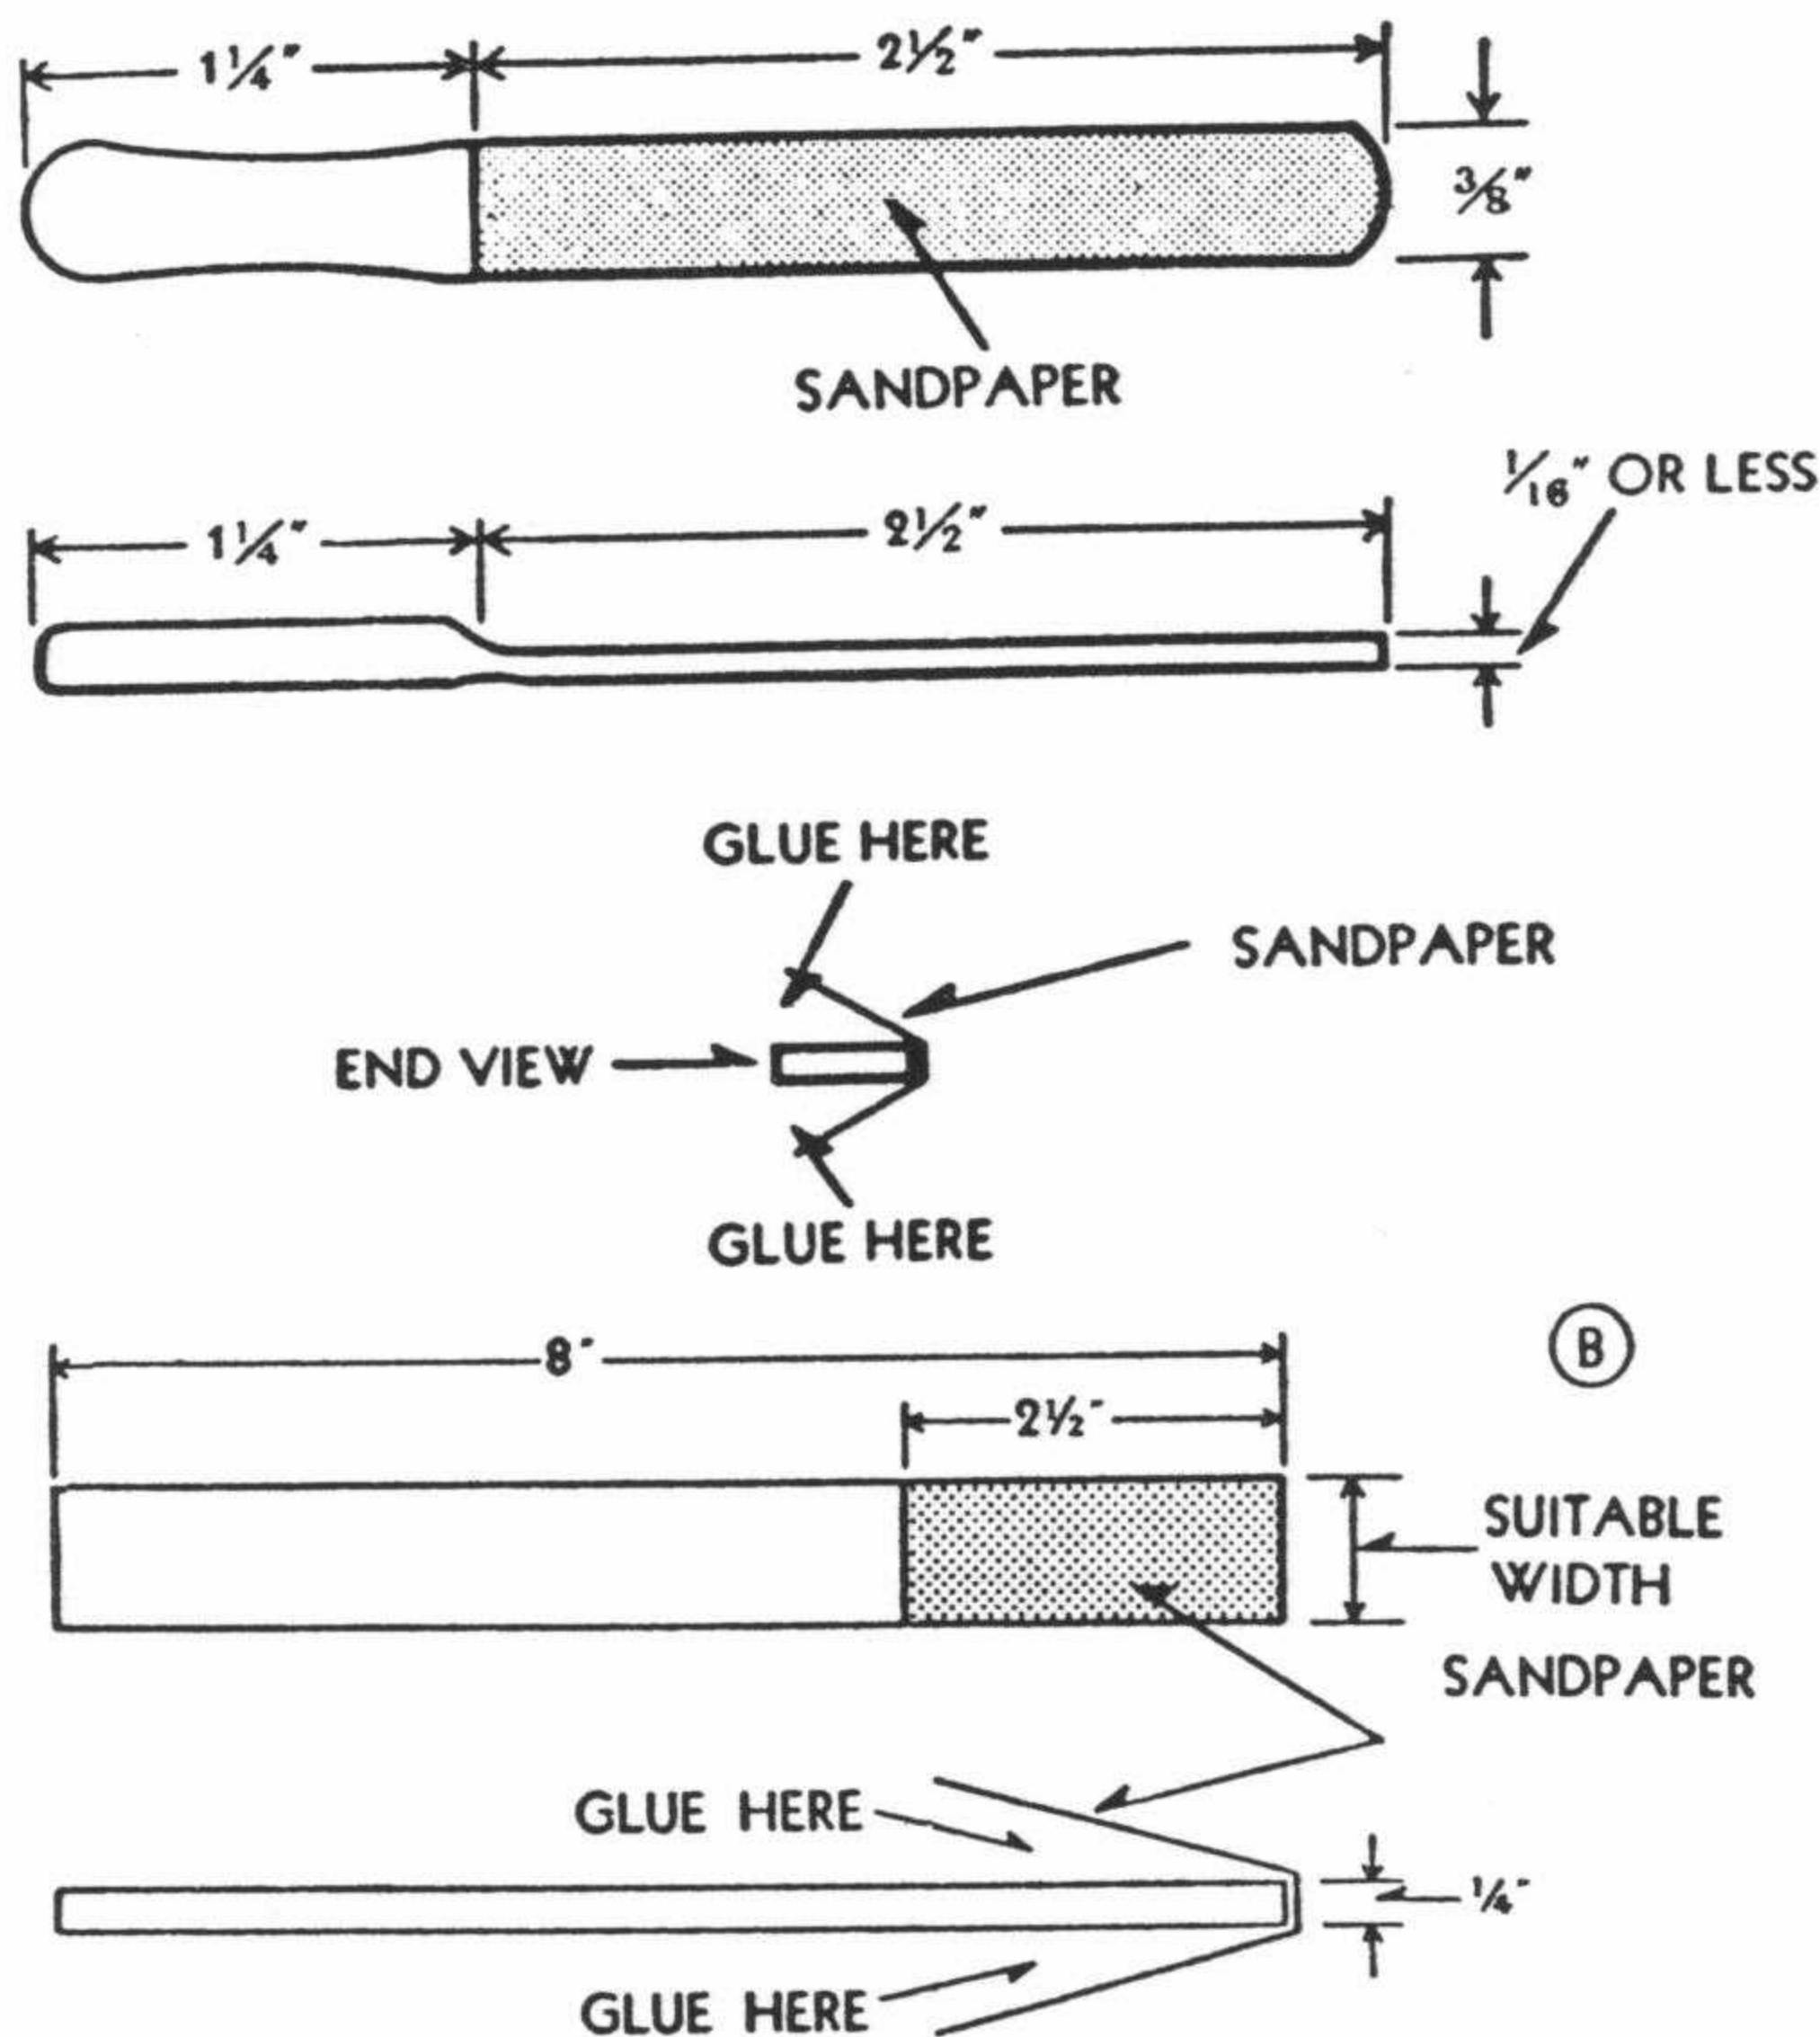

Fig. 11—Contact Cleaning Tool
- (1) Dental mirror, non-magnifying.
- (2) Paint brush.
- (3) Lint-free cloth.
- (4) #0000 sandpaper strip  $\frac{3}{4}$ " x 6".
- (5) Sandpaper on stick, see Fig. 11 for construction details.
- (6) Burnishing tool.
- (7) Fine-cut file.